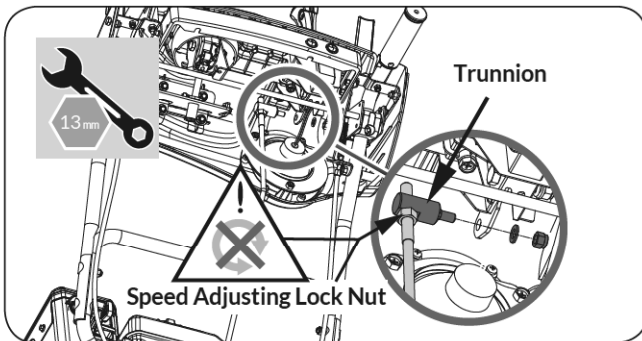

Figure 4b
2. Lift up the shift rod. Insert the trunnion into the shift rod hole on the bottom of the shift lever under the dashboard. Install the washer and M8 nut. Tighten securely. (See **Figure 4b**)
The speed adjusting lock nut at the upper end of the shift rod was adjusted before leaving the factory. Do NOT loosen the lock nut. Doing so may cause the machine speeds to become dis-ordered, including Fwd and Rev. (See **Figure 4b**)